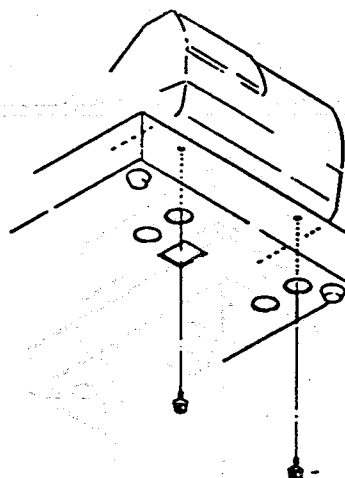

Fig. 13-8
1. Remove two screws from the bottom of the drawer (Fig. 13-8).
Detach the drawer from the cash register in reference to Figs.13-8 and 13-9.